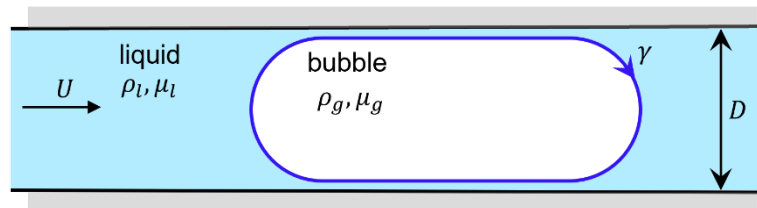

Figure Q6
6. Within a capillary channel of diameter D , a liquid of density ρ_l and dynamic viscosity μ_l flows with velocity U_l . A gas of density ρ_g and dynamic viscosity μ_g is injected through a side hole into the channel, forming a long bubble that is transported downstream. The sketch in Fig. Q6. The surface tension of the gas-liquid mixture is denoted with γ . Using Buckingham's Pi theorem: